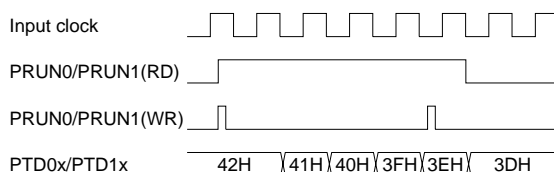

Fig. 5.11.11.1 Timing chart of RUN/STOP control
- (1) The programmable timer is actually made to RUN/STOP in synchronization with the falling edge of the input clock after writing to the PRUN0(1) register. Consequently, when "0" is written to the PRUN0(1), the timer shifts to STOP status when the counter is decremented "1". The PRUN0(1) maintains "1" for reading until the timer actually shifts to STOP status. Figure 5.11.11.1 shows the timing chart of the RUN/STOP control.